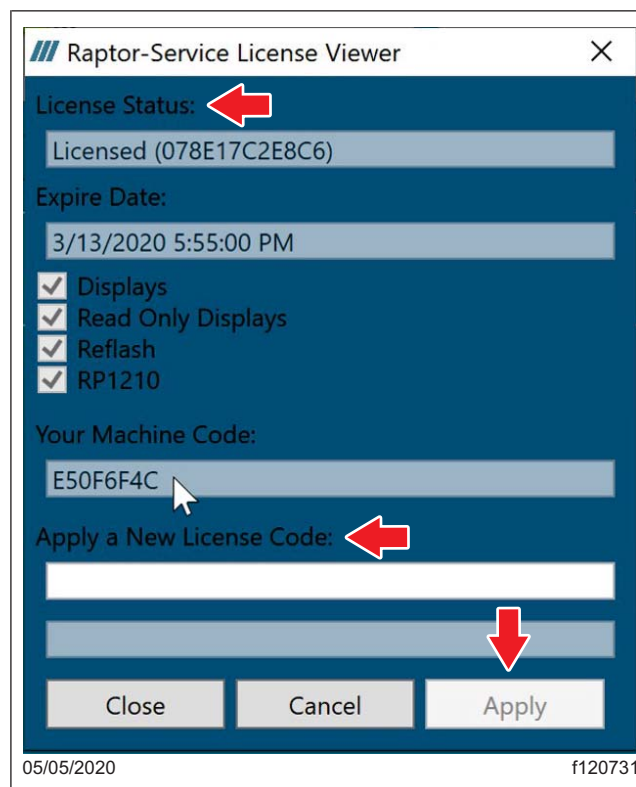

Fig. 24, Raptor-Service License Viewer Window
NOTE: A unique machine code was automatically created when the program was installed. Write down the machine code for the next step. You will have to provide this code when contacting agility. See Fig. 24.
3. The 'License Viewer' window will open. See Fig. 24. You will need to contact Agility at 1-949-207-5364 between 8 A.M. to 5 P.M. eastern standard time and provide the machine code noted earlier, and then ask for the license code. Any phone call after this time will go to voicemail.
4. Once the license code is created by Agility, enter it in the 'Apply a New License Code' section shown in Fig. 24, then select 'Apply' and close the window.